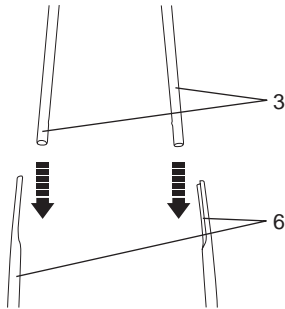

Fig. 4
3. Align the middle handle bars (3) to the lower ones (6). Make sure the holes of the handle bars (3, 6) correspond and secure them with handle assembly set (5) on each side, make sure the locking knob is located inside. (Fig. 4&5).